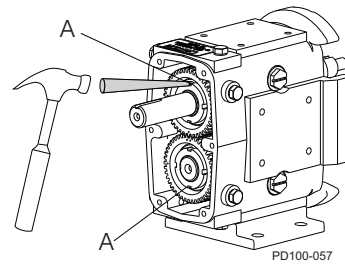

Figure 93 - Bend Lock Tab on Lock washers
7. Bend the locking tab (Figure 93, item A) on the lock washers into the locking nut slots, securing the gear locknut into place.